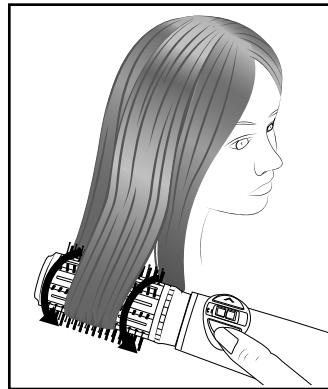

Fig. 1
- 5) Press and hold the rotation button **2** >/ **7** < so that the round brush **8/9** starts to rotate. Use the round brush **8/9** at the ends of the hair, distributing the strand along the length of the round brush **8/9** (see Fig. 1). The twisting movement coils the strand. Release the rotation button **2** >/ **7** < before the hairline is reached. The brush stops rotating.